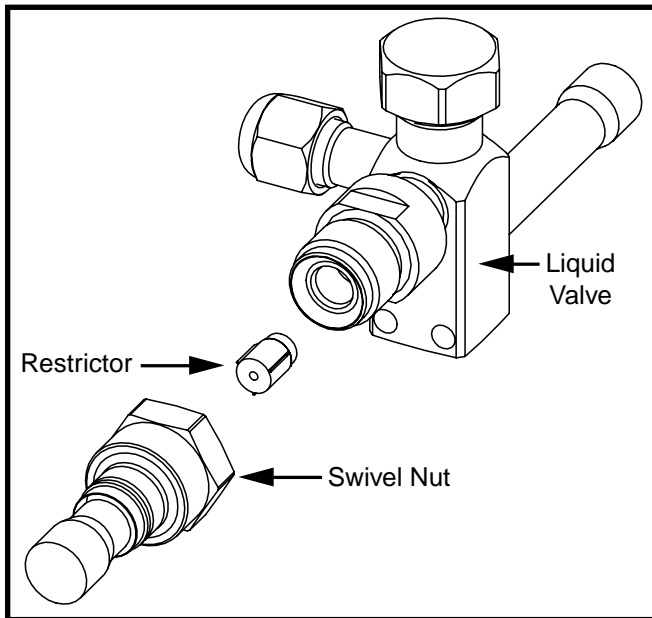

Figure 2. Liquid Valve, Restrictor, & Swivel Nut Adapter
If the outdoor unit has the liquid valve shown in Figure 2 (page 5) then the restrictor is located inside the swivel nut connection of the liquid valve and not inside the outdoor unit's distributor. Perform steps 1 - 5 if the outdoor restrictor needs to be changed.
4. Insert the new orifice into the valve body, with the rounded end facing into the valve. See Figure 2.